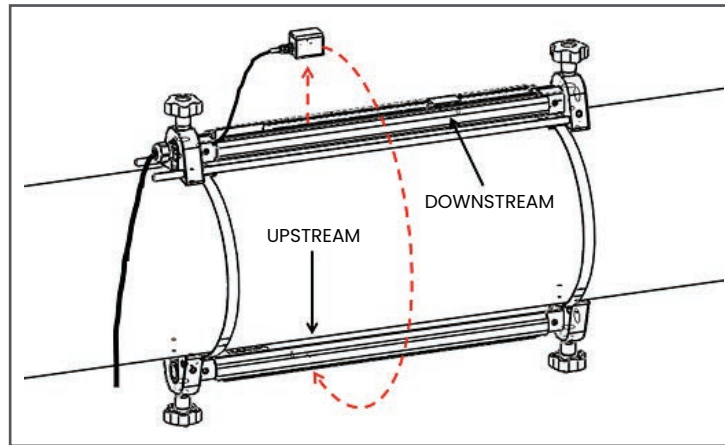

Figure 19: Relocate the Upstream Transducer
- b. Remove the upstream transducer from the first fixture (see Figure 19 below). Disconnect the transducer cable and route the cable into the second fixture.